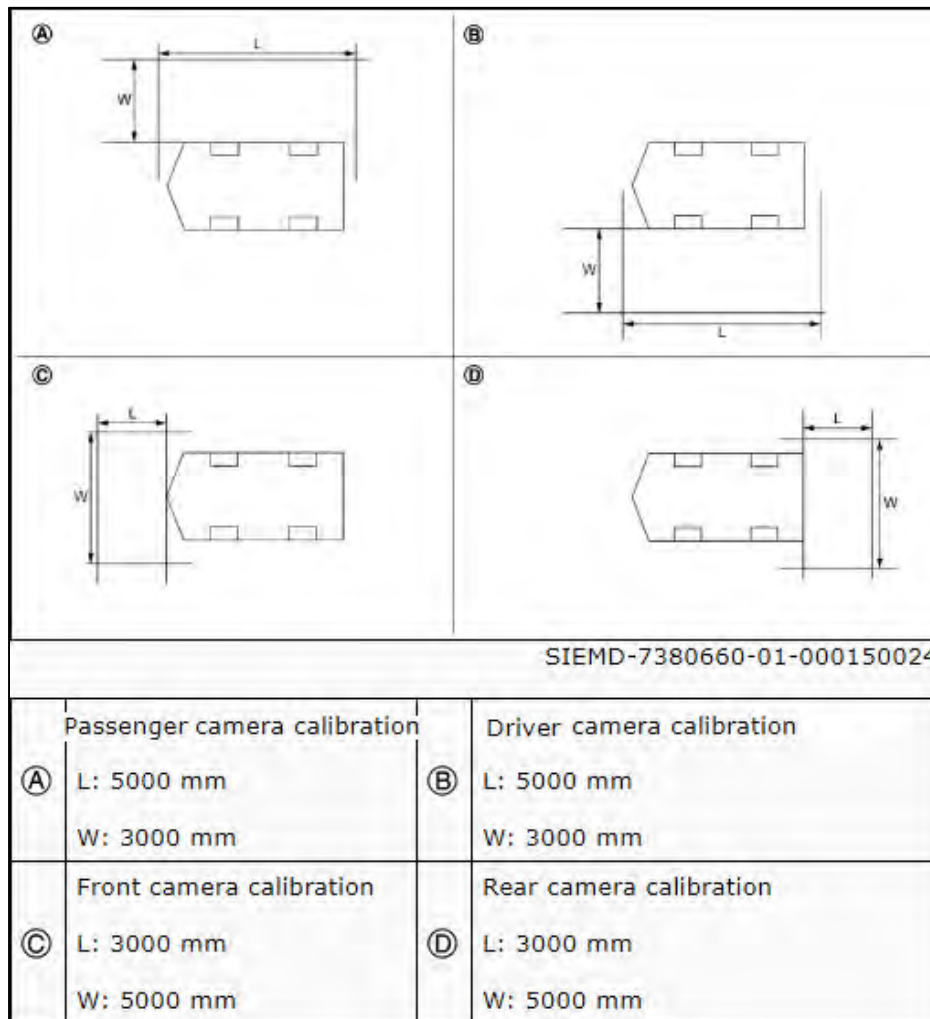

Figure 2
- **HINT:** The shop floor area requirements are shown in Figure 2 (only one camera will be calibrated at a time so the vehicle can be repositioned for each camera as needed).